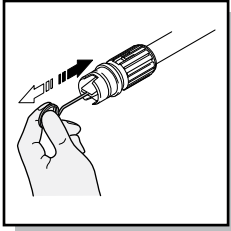

Fig. 20
- Using the nozzle tip cleaner provided (or an unfolded paper clip), insert the wire into the nozzle hole and move back and forth until debris is dislodged (Fig.20). Back flush water through the nozzles using garden hose and highest pressure available (either standard water nozzle or use your thumb over the nozzle to create water pressure for back flush).